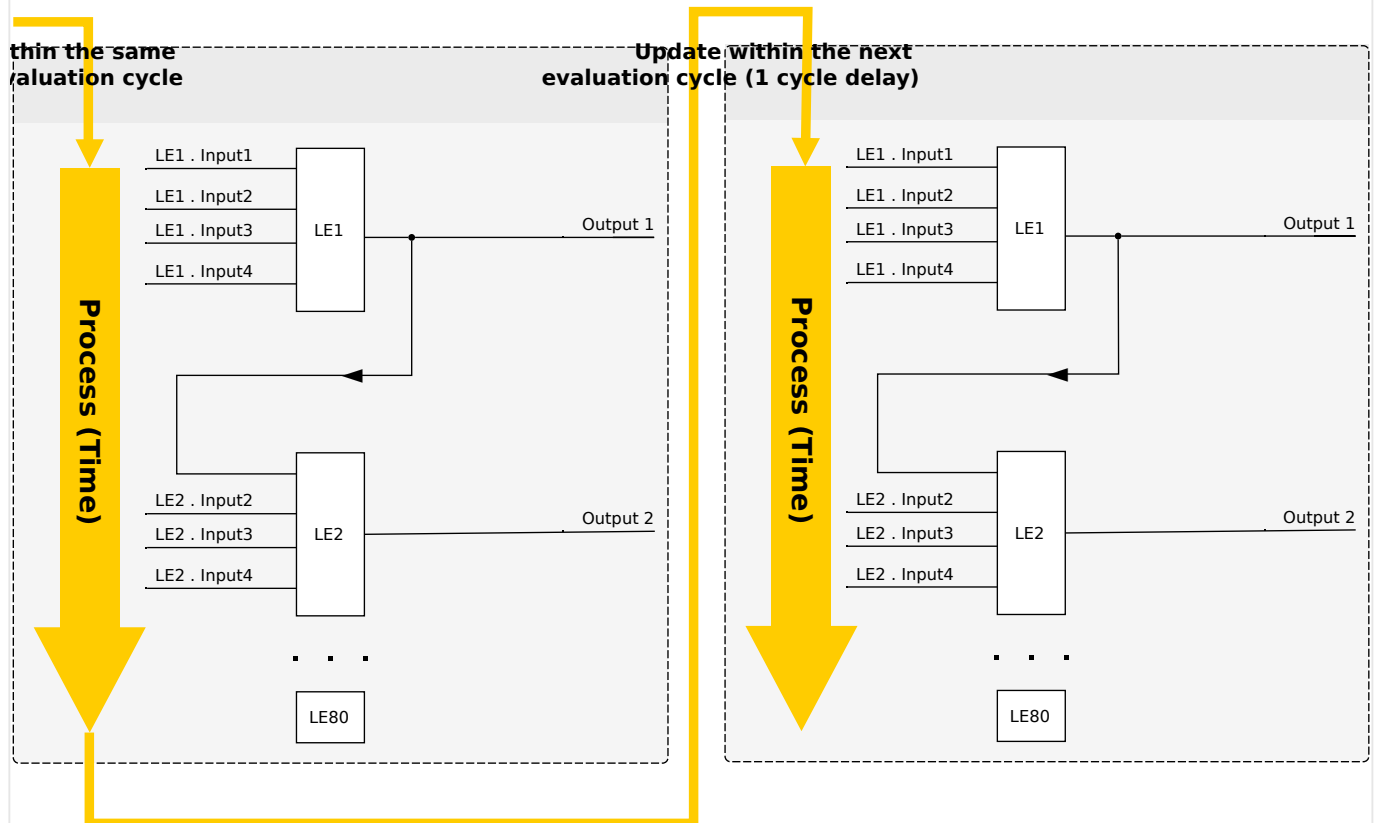
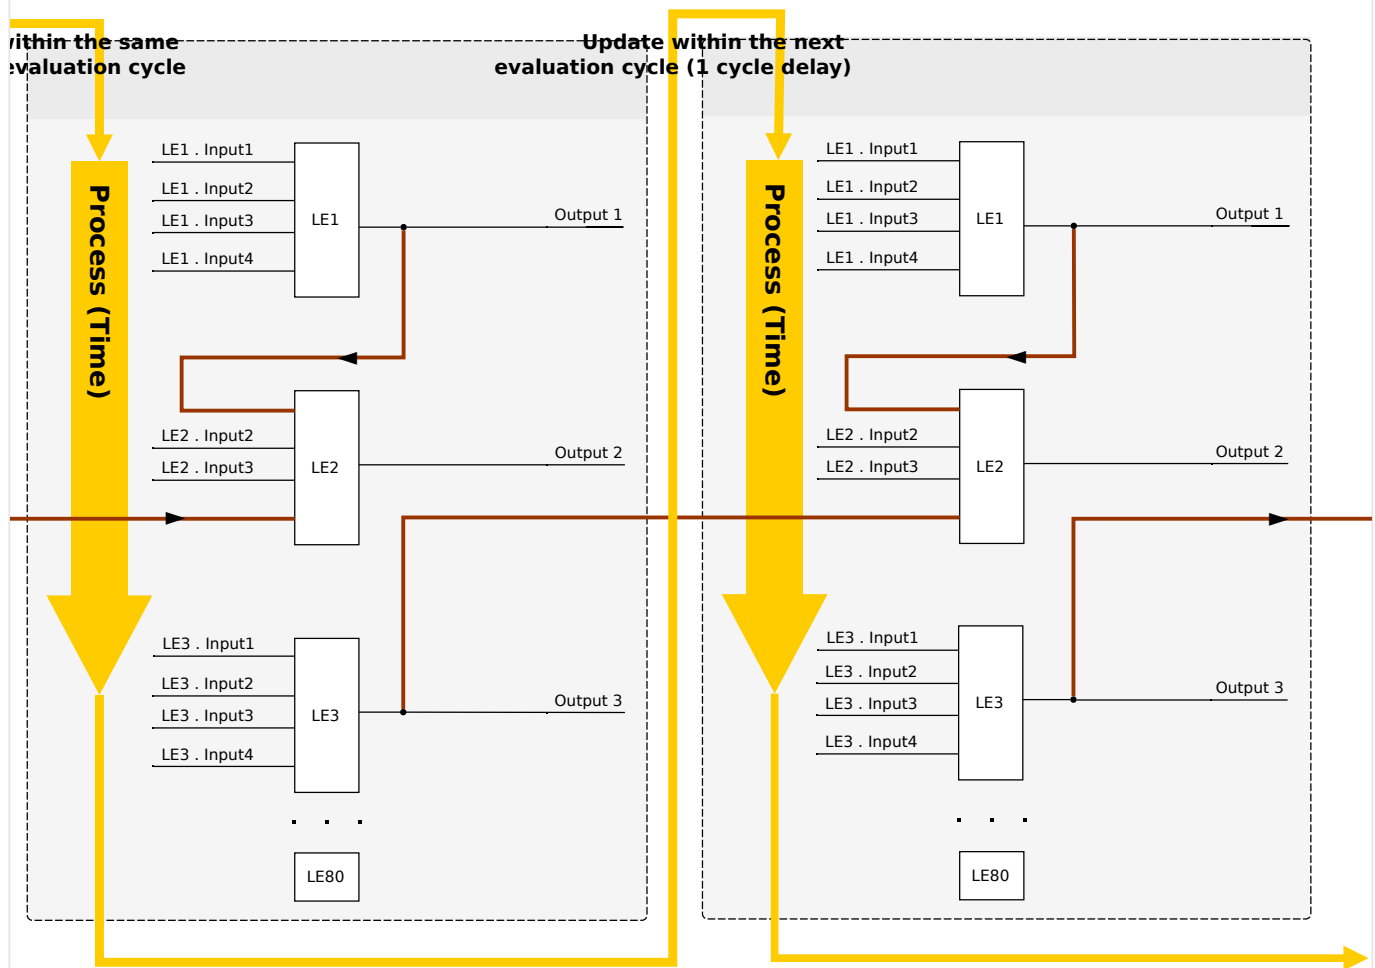

Fig. 167: Cascading in Ascending Order.
Fig. 168: Cascading in Descending Order.
- **Ascending** sequence means that some output is fed into the input of a logic equation with **higher** number. For instance, diagram ↪Fig. 167 below shows an example where the result of Logic Equation LE1 is used as an input of Logic Equation LE2.
- **Descending** sequence means that some output is fed into the input of a logic equation with **lower** number. For instance, diagram ↪Fig. 168 shows an example where the result of Logic Equation LE3 is used as an input of Logic Equation LE2.
Both ascending and descending sequences may be used and combined one with the other, with no immediate difference. However, due to the evaluation of all equations in ascending order the actual run-time values that are fed in at the input of an equation will have a different “age”, as is shown in ↪Fig. 167 and ↪Fig. 168 below.
In the example shown in →Fig. 168 above, “Logic Equation 2” uses the output states of two other equations, “Logic Equation 1” and “Logic Equation 3”. The result of “Logic Equation 1” is used in ascending order and has therefore been evaluated within the same process cycle. The result of “Logic Equation 3” is used in descending order and has therefore been evaluated in the previous process cycle.